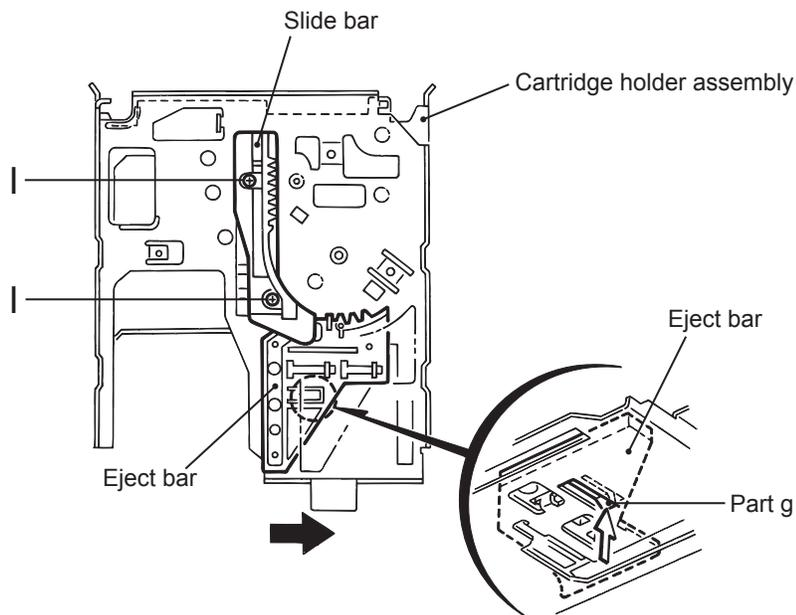

Fig.14
**(See Fig.14 and 15)**
(1) Remove the two screws **I** on the upper side of the loading assembly.
- (1) Remove the slide bar upward.
- (2) Move the eject bar outward until it stops as shown in Fig.14. Push the convex part **g** on the bottom of the body and remove the eject bar from the chassis.